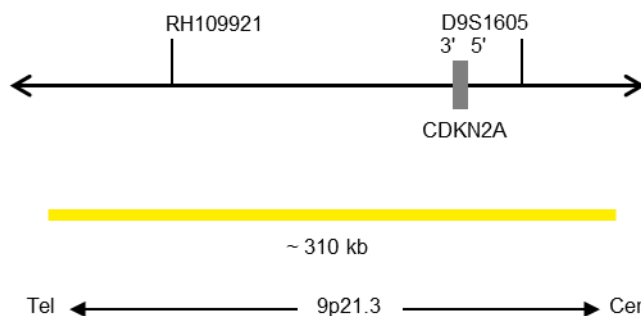

Fig. 1: SPEC CDKN2A Probe map (not to scale)
- ZyGold (excitation 532 nm and emission 553 nm) labeled polynucleotides (~5.5 ng/ μ l), which target sequences mapping in 9p21.3* (chr9:21,742,619-22,056,863) harboring the CDKN2A gene region (see Fig. 1).